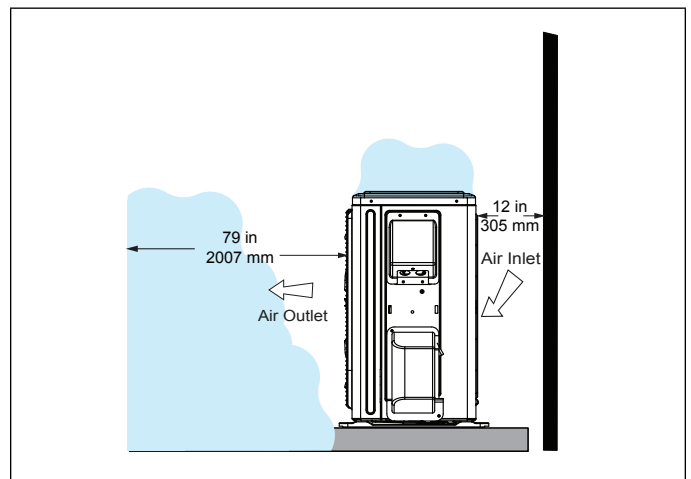

Figure 8. Outdoor Unit Air Flow Obstructed by Snow
- In heavy snow areas, do not place the outdoor unit where drifting will occur as illustrated in “Figure 8. Outdoor Unit Air Flow Obstructed by Snow” on page 21.